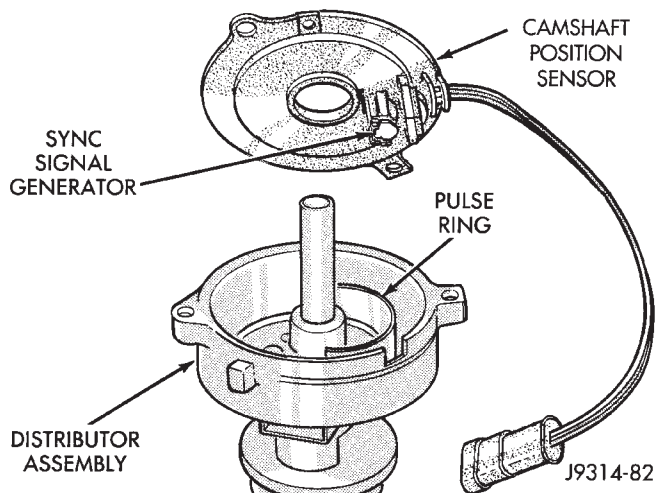

Fig. 36 Camshaft Position Sensor—Typical (5.2L Shown)
The camshaft position sensor is located in the distributor on all 4.0L and 5.2L engines (Fig. 36).
- (1) 5.2L Engines: Remove air cleaner tube at throttle body.
- (2) Disconnect negative cable from battery.
- (3) Remove distributor cap from distributor (two screws).
- (4) Disconnect camshaft position sensor wiring harness from main engine wiring harness.
- (5) Remove distributor rotor from distributor shaft.
- (6) Lift the camshaft position sensor assembly from the distributor housing (Fig. 36).